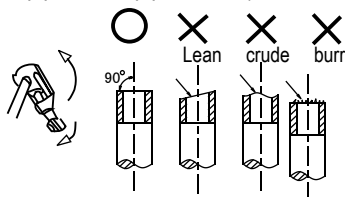

Fig. 7-1
- Cut a pipe with a pipe cutter. (Refer to Fig.7-1)